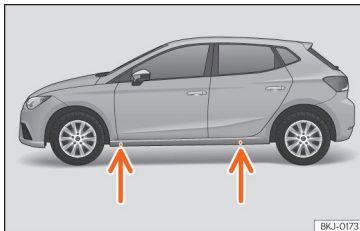

Fig. 189 Jack position points.
- Look on the strut for the mark of the jack support point (sunken area) closest to the wheel to be changed >>> Fig. 189.